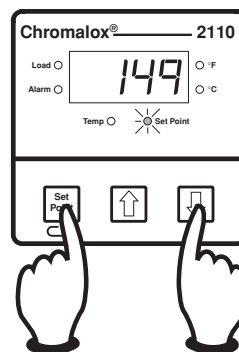

Figure 4.2
4. While still pressing the Set Point button, press either the \uparrow or \downarrow button to adjust the set point to the desired value (see Figure 4.2).